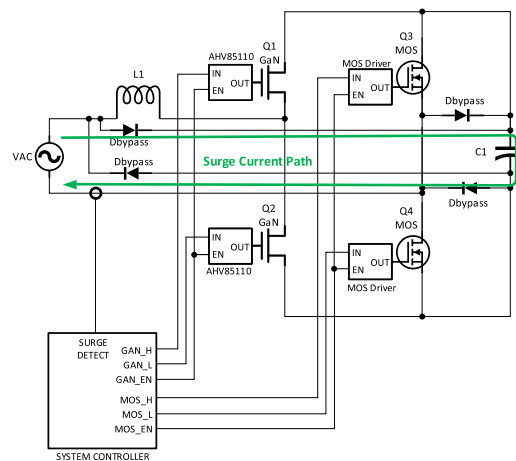

Figure 18: Block diagram of system level surge-detection inhibit signal; used to disable isolated gate drivers using the EN pins
It is recommended to the driver enable (EN) pin to achieve a power-train “safe-state” during such external transient events. An example of the use of this safe-state architecture is shown in Figure 18, for a Totem-Pole PFC power stage. When a surge event is detected, the system controller inhibits the PWM gate drive signal to both GaN and MOS legs, and also pulls down the open-drain Enable (EN) lines to all drivers. This puts the power-train into a safe state and ensures a robust response to the surge event.